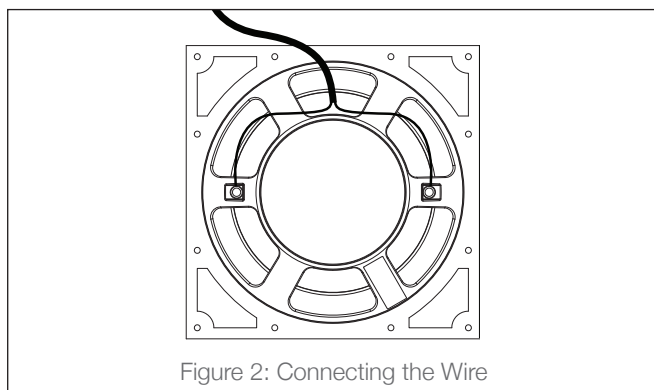

Figure 2: Connecting the Wire
2. Connect the internal wire to the woofer driver. Connect the RED wire to the positive terminal and the BLACK wire to the negative terminal. If using multiple subwoofers it is critical that the polarity of all the woofers is the same (see Figure 2).